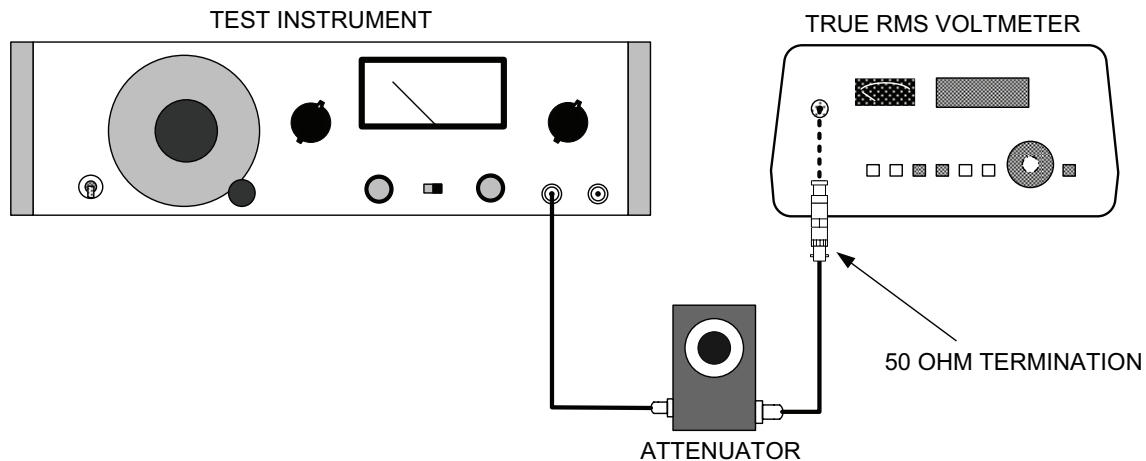

Figure 3. Output attenuator - equipment setup.
- (1) Adjust **AMPLITUDE** controls for minimum output.
- (2) Connect equipment as shown in figure 3.